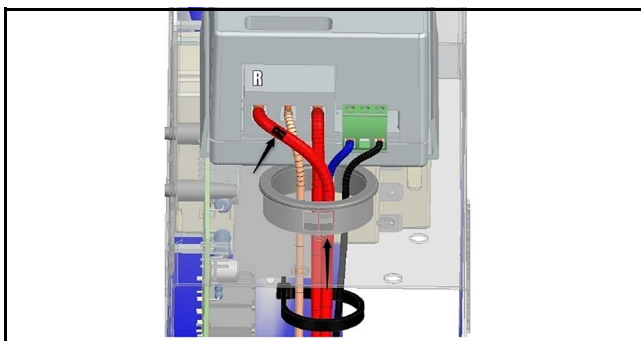

Fig. 14 R-Signal Wiring (SM)
5. Route the R-signal wire of compressor harness through the large hole in top of control box and insert into the Smart Start Assist R connector. Refer to Fig. 14.